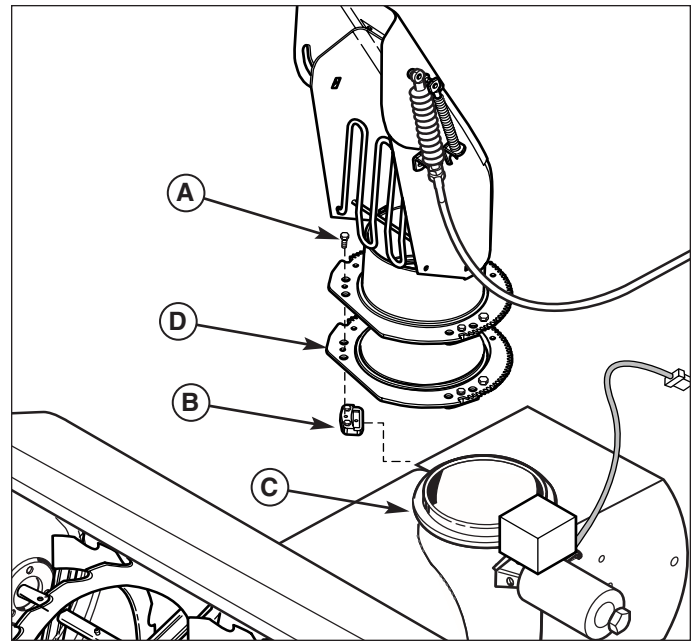

Figure 16. Assemble Discharge Chute
1. Locate the hold downs (B, Figure 16), reinforcement ring gear (D), and plastite screws (A).
4. Install the discharge chute and reinforcement ring gear (D), and secure to the chute ring (C, Figure 16) using the three hold downs (B) and plastite screws (A).